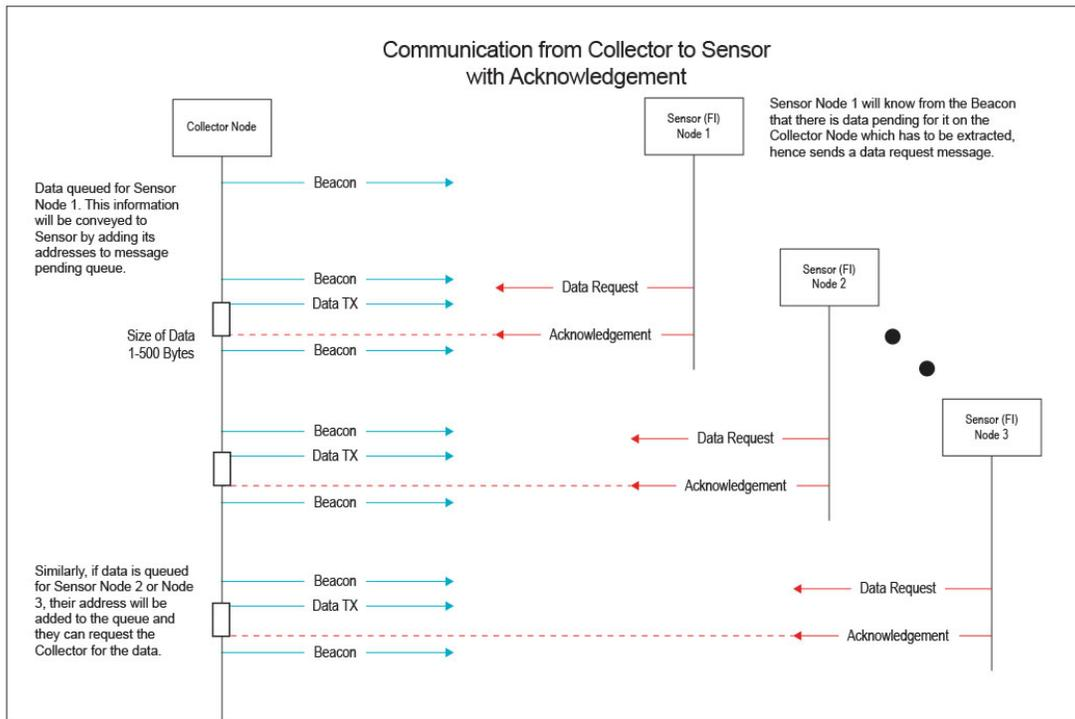

Figure 2. Beacon mode communication
There are two types of modes for managing data transmit (TX) and receive (RX): beacon mode and non-beacon mode. In non-beacon mode, the sensor node is always in receiving mode because there is no defined time when the data collector can communicate with it, which translates to higher current consumption (observed to be ~5 mA). Along with optimized transmit power levels based on the distance between nodes, beacon mode communication (Figure 2) fits best, as it enables duty cycling between wake and sleep modes on the sensor node to help conserve power when the transceiver is off.